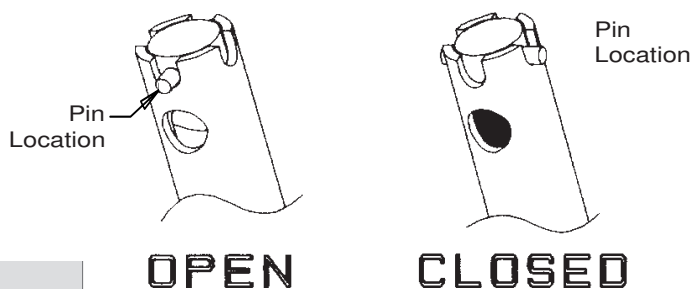

Figure 6-4
a. “OPEN” - Always use this position when dispensing product. (See figure 6-4. When OPEN you can see clear through the hole in the top of mix feed tube.)
b. “CLOSED” - Use this position when the freezer is in the “NIGHT” mode, and when product will not be dispensed for a long period of time. (See figure 6-4. When CLOSED you cannot see through the hole in the top of the mix feed tube — the white plastic insert tube inside will block the hole.)